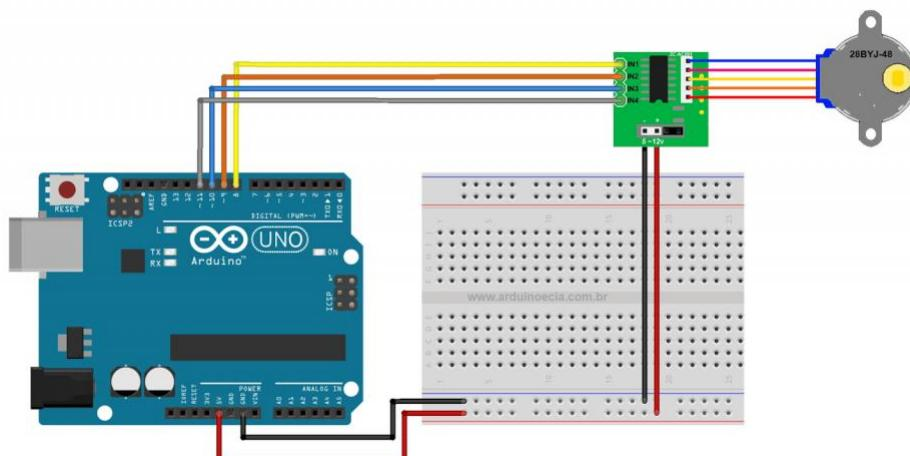

Figure 4.1 – Wiring diagram for Stepper Motor project
- b. Connect the ULN2003 driver as shown in the **Wiring Diagram (Figure 4.1)**.